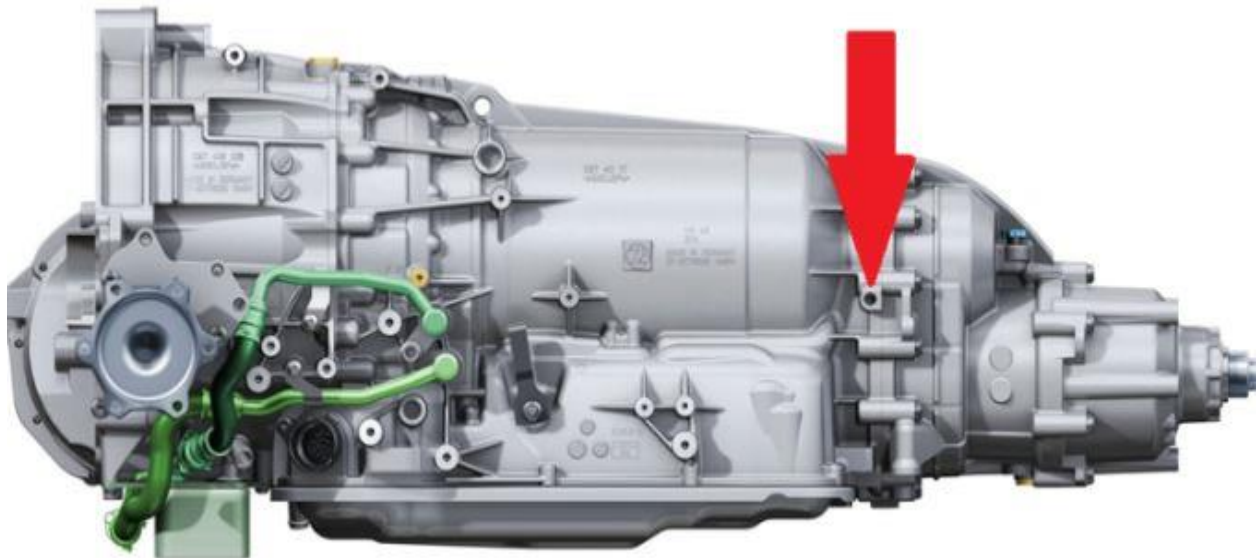

Figure 1. Location of the double seal weep hole.
You must check the weep hole of the double seal between the transmission and transfer case, which is located on the driver's side of the vehicle (Figure 1). A leak from this location can appear to be from the pan gasket if the oil is not cleaned off and a proper diagnosis performed using oil leak tracing powder.
3. If the transmission oil is leaking from the weep hole of the double seal (Figure 1) skip to step 6.